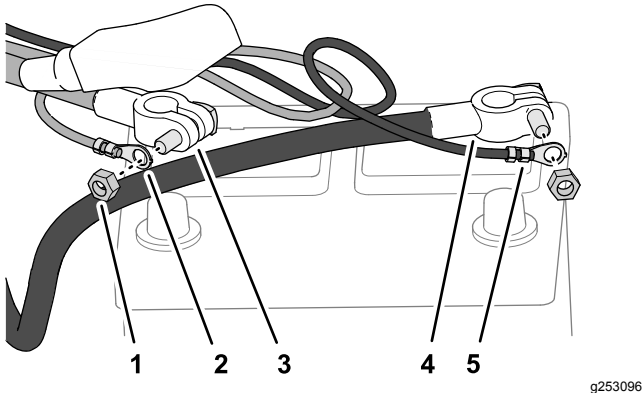

Figure 15
1. At the positive and negative battery cables, remove the battery-clamp nuts from the short side of the battery clamp bolts (Figure 15).
2. Assemble the ring terminal of the power harness with the black wire onto the battery clamp bolt for the negative battery cable with a battery-clamp nut (Figure 15).
3. Assemble the ring terminal of the power harness with the red wire onto the battery clamp bolt for the positive battery cable with a battery-clamp nut (Figure 15).